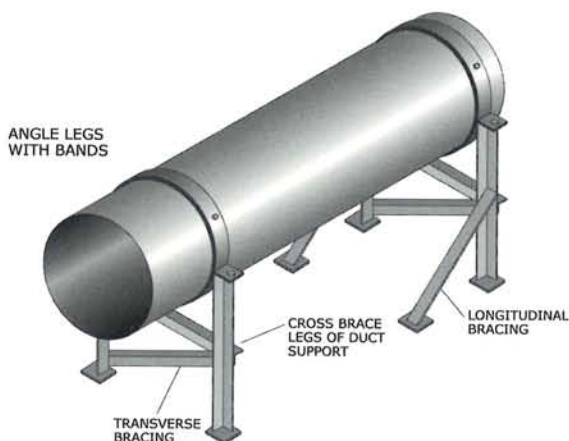

Figure 52: Round duct roof support.
- Mounted to an angle support for round or oval ducts (Figure 52, page 46).